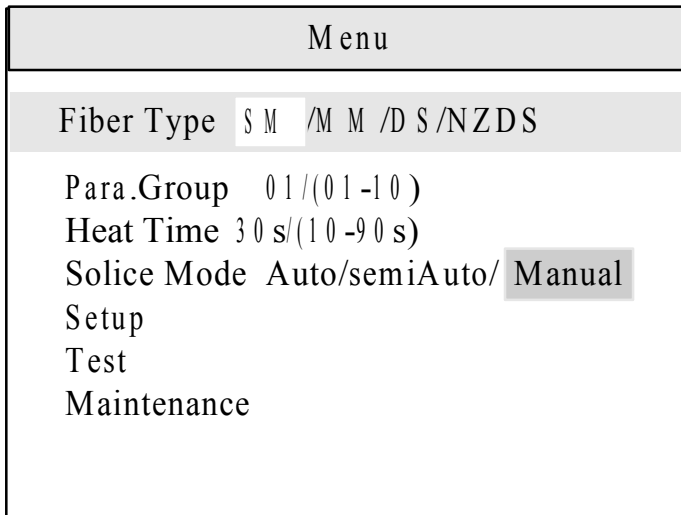

Figure 7-1
In the splice mode, press the  key and the instrument will enter the menu mode. The screen displays the main menu as figure 7-1.
- a) As the screen in figure 7-1, move the cursor to Fiber type option with  key or  key, and select "SM" with  or .